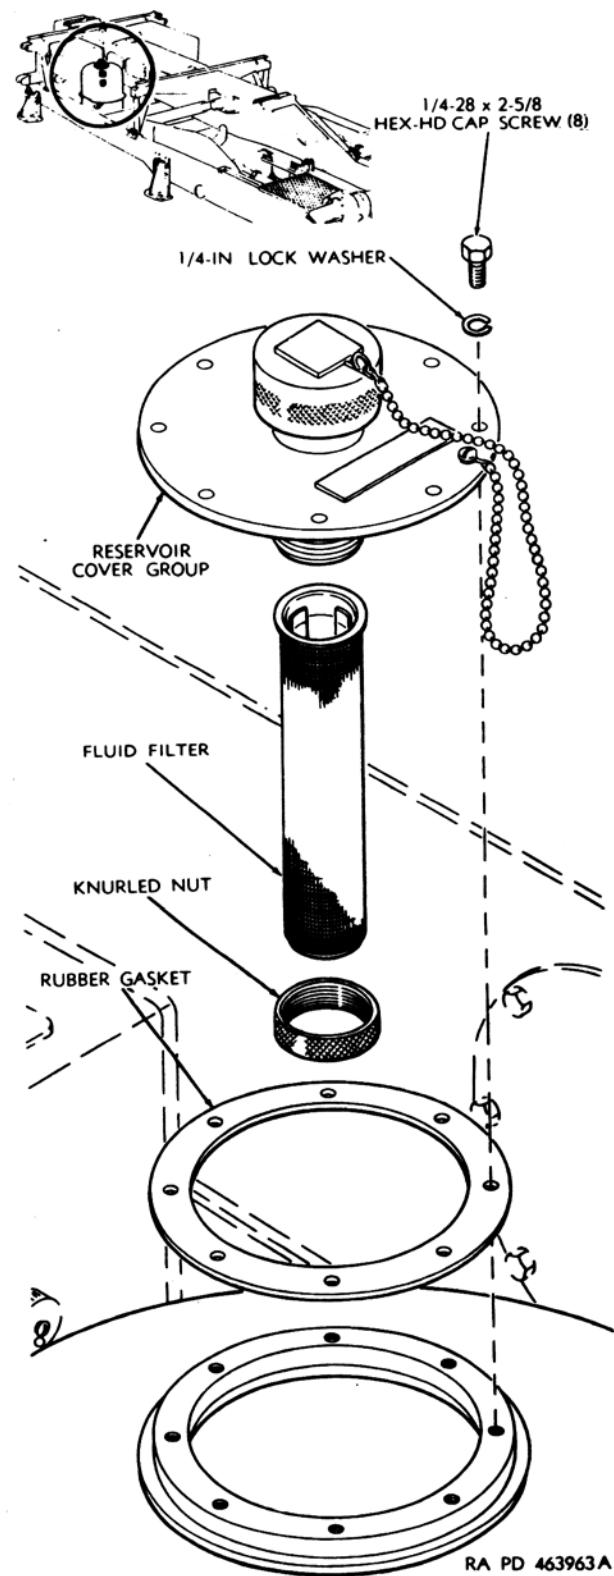

Figure 164. Reservoir cover group—removal and installation.
(b) Remove cover group (fig. 164).
(b) Remove the reservoir cover group (fig. 164).
(c) Install reservoir cover group (fig. 164) and torque the eight $\frac{1}{4}$ -28 x 2% hexagon-head cap screws to 35 pound-inches.
(c) Remove the reservoir cover group (fig. 164).
- (d) Install the reservoir cover group (fig. 164) and torque the eight 1/4-28 x 2% hexagon-head cap screws to 35 pound-inches.